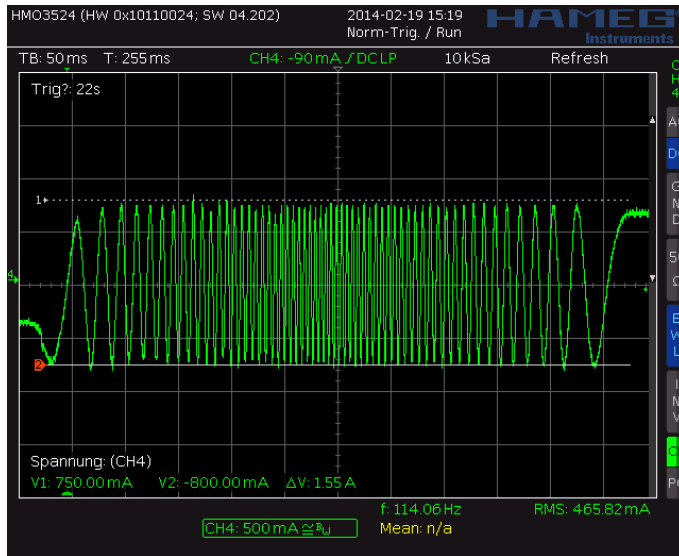
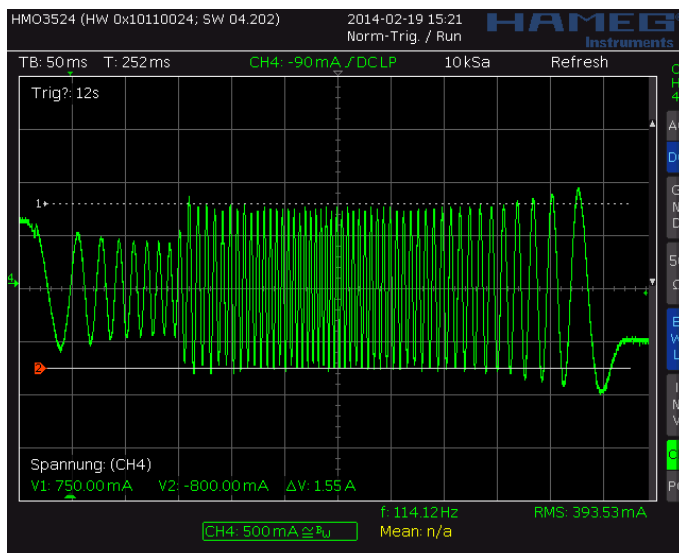
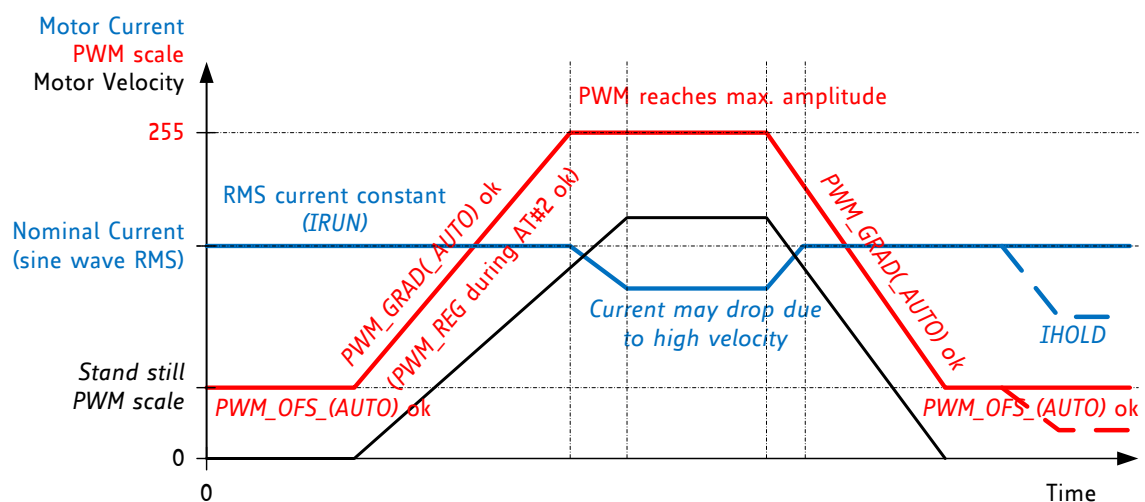

Figure 6.3 Scope shot: good setting for PWM_REG
Figure 6.4 Scope shot: too small setting for PWM_REG during AT#2
Figure 6.5 Successfully determined PWM_GRAD(AUTO) and PWM_OFS(AUTO)
In stealthChop voltage PWM mode, the autoscaling function (*pwm_autoscale* = 1, *pwm_auto_grad* = 1) regulates the motor current to the desired current setting. Automatic scaling is used as part of the automatic tuning process (AT), and for subsequent tracking of changes within the motor parameters. The driver measures the motor current during the chopper on time and uses a proportional regulator to regulate *PWM_SCALE_AUTO* in order match the motor current to the target current. *PWM_REG* is the proportionality coefficient for this regulator. Basically, the proportionality coefficient should be as small as possible in order to get a stable and soft regulation behavior, but it must be large enough to allow the driver to quickly react to changes caused by variation of the motor target current (e.g. change of VREF). During initial tuning step AT#2, *PWM_REG* also compensates for the change of motor velocity. Therefore, a high acceleration during AT#2 will require a higher setting of *PWM_REG*. With careful selection of homing velocity and acceleration, a minimum setting of the regulation gradient often is sufficient (*PWM_REG*=1). *PWM_REG* setting should be optimized for the fastest required acceleration and deceleration ramp (compare Figure 6.3 and Figure 6.4). The quality of the setting *PWM_REG* in phase AT#2 and the finished automatic tuning procedure (or non-automatic settings for *PWM_OFS* and *PWM_GRAD*) can be examined when monitoring motor current during an acceleration phase Figure 6.5.